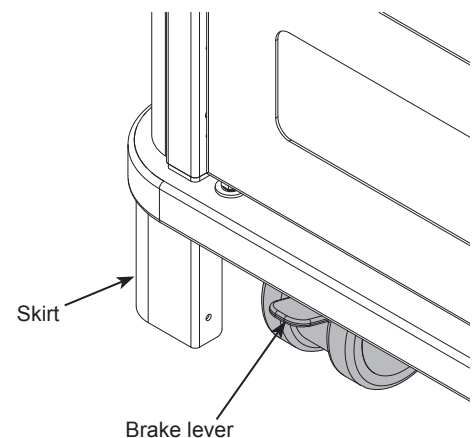

Figure 3
1. Lock the brake levers to lock movement of the casters. (Two instructor-side casters only). **Figure 3.**